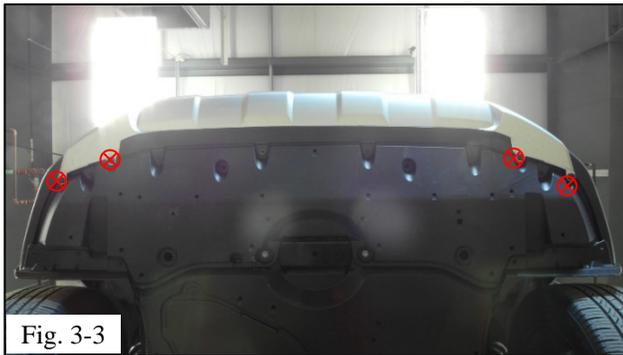

Fig. 3-1
- (a) From inside the wheel well, remove the screw shown. (1) on each side of vehicle. LH shown (Fig. 3-1).